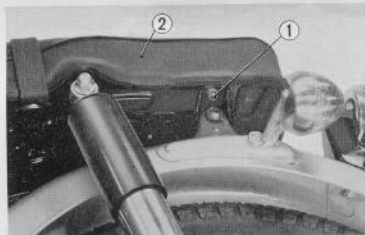

Fig. 4.50 Removing seat mounting nut
1. Unscrew the two seat mounting nuts ① located under the seat. (Fig. 4.50)